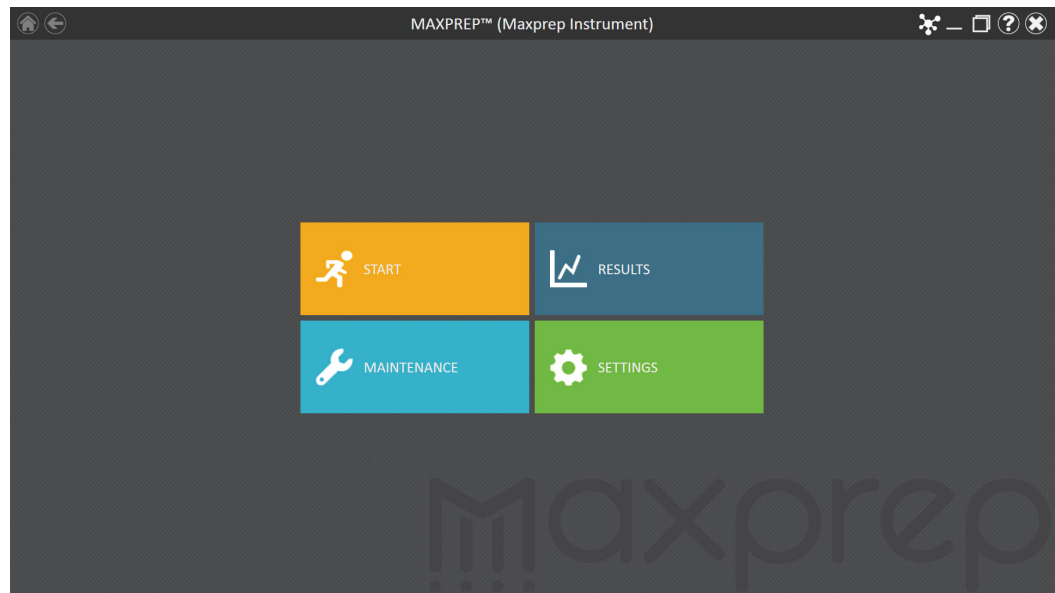

Figure 1. Maxprep™ software 'Home' screen. From the Maxprep™ software 'Home' screen, select the **Start** button to begin the process of running a method.
2. From the Maxprep™ software 'Home' screen (Figure 1), press the **Start** button.